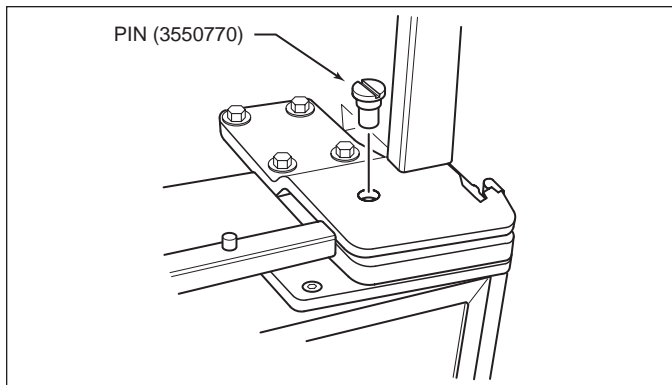

Figure 2-14. 90° Stop Pin (611-2, 650-2)
- b. With door closed, insert door stop pin down into threaded hole in top cabinet hinge and tighten (See Figure 2-14). Then, reinstall unit grille.